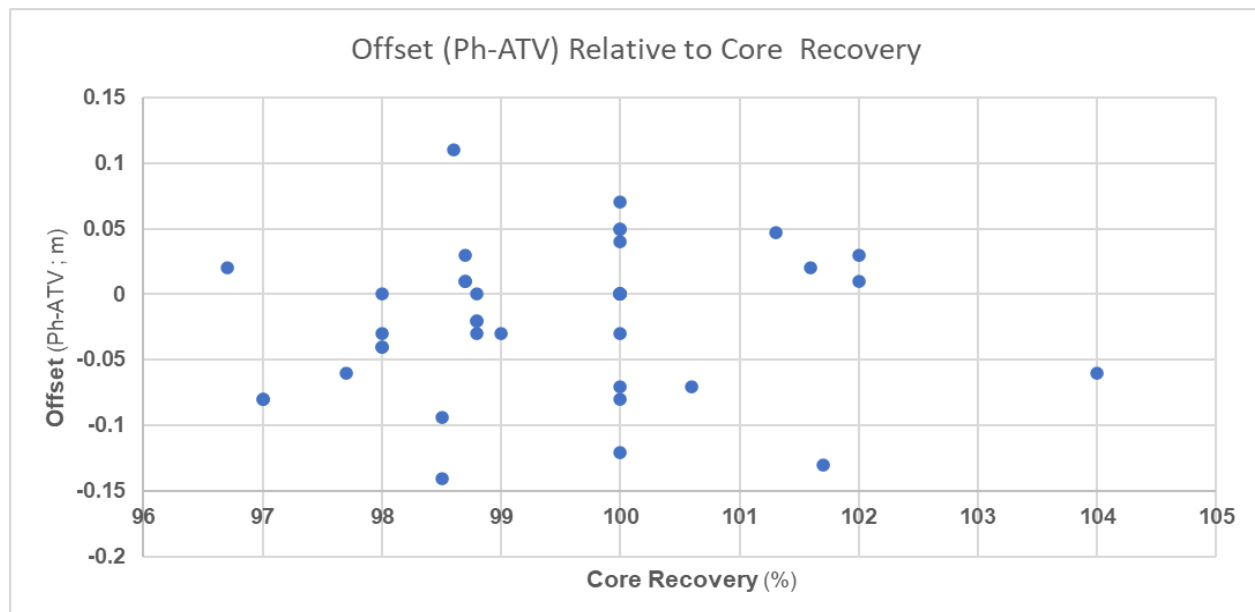

Figure 6 Core to ATV Offset Relative to Core Recovery
4. To assess whether the offset is related to core recovery the two parameters are cross plotted in Figure 6. The analysis confirms that there is no obvious systematic variation between the offset between core and the ATV image and the differences appear random. Since the ATV is